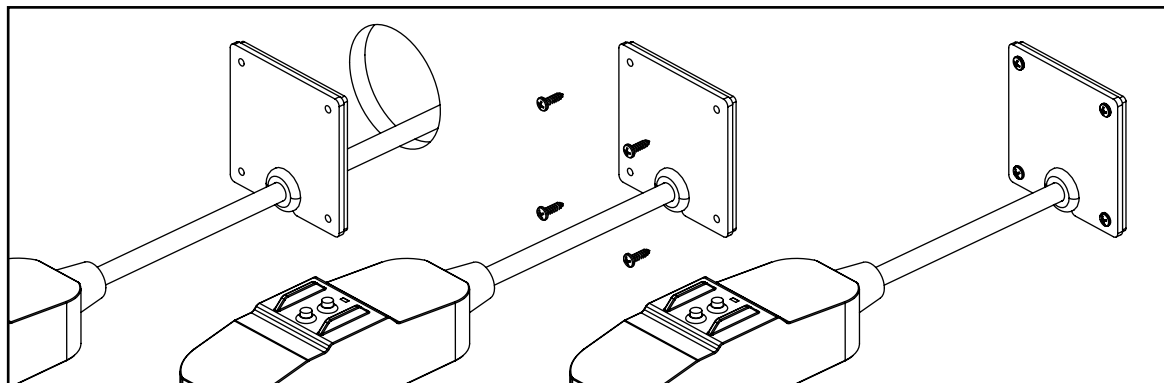

FIG. 10.4. For the options listed, you may need to access the terminal connections to facilitate routing. Below are the key components you'll need to work with.
3. Depending on your hot tub model you may need to disconnect the power cable at the Heater unit to facilitate routing. If you need to disconnect and reconnect, proceed with these instructions otherwise skip to step 12. (Reference FIG 10.4)
4. Remove terminal cover screws. (1).
5. Loosen cable gland nut. (2)
6. Slide the terminal cover (3) and the strain relief (4) along the cable.
7. Undo the terminal screws (5) to disconnect the wires.
In some cases you may need to disconnect the power cable at the heater. Refer to FIG. 10.4, 10.5 for instructions on how to do so.